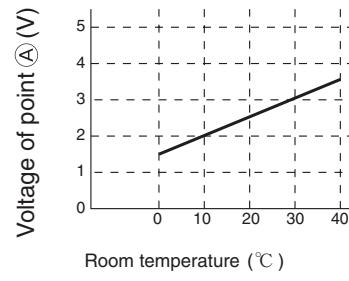

Fig. 8-2
According to room temperature, the voltage of point (A) becomes as it is shown in Fig. 8-2.